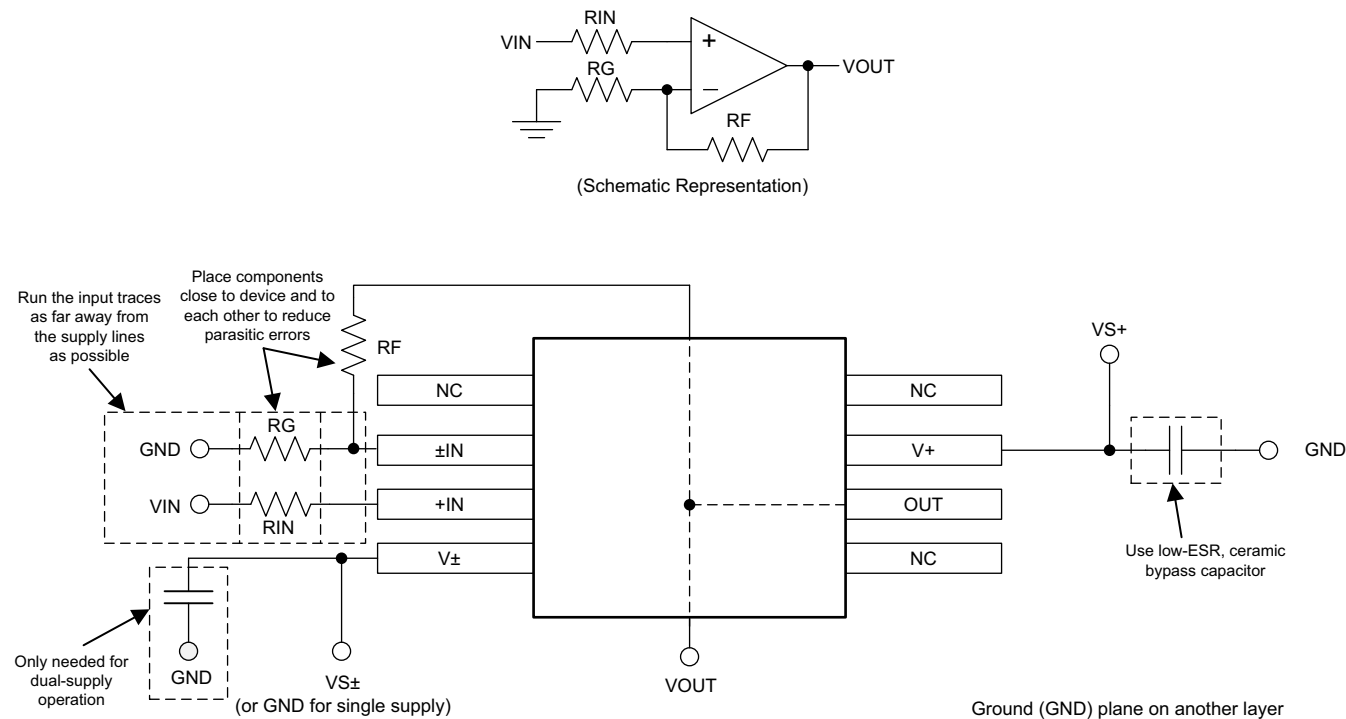

Figure 42. Operational Amplifier Board Layout for a Noninverting Configuration
- Place the external components as close to the device as possible. As shown in Figure 42, keeping RF and RG close to the inverting input minimizes parasitic capacitance.